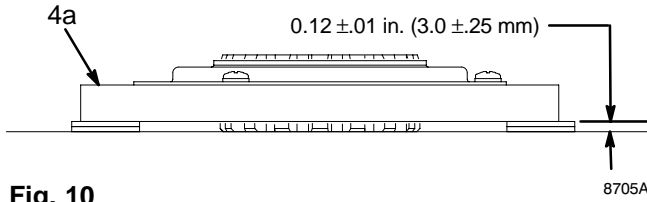

Fig. 10
1. Fig. 10. Lay two stacks of two dimes on smooth bench surface.